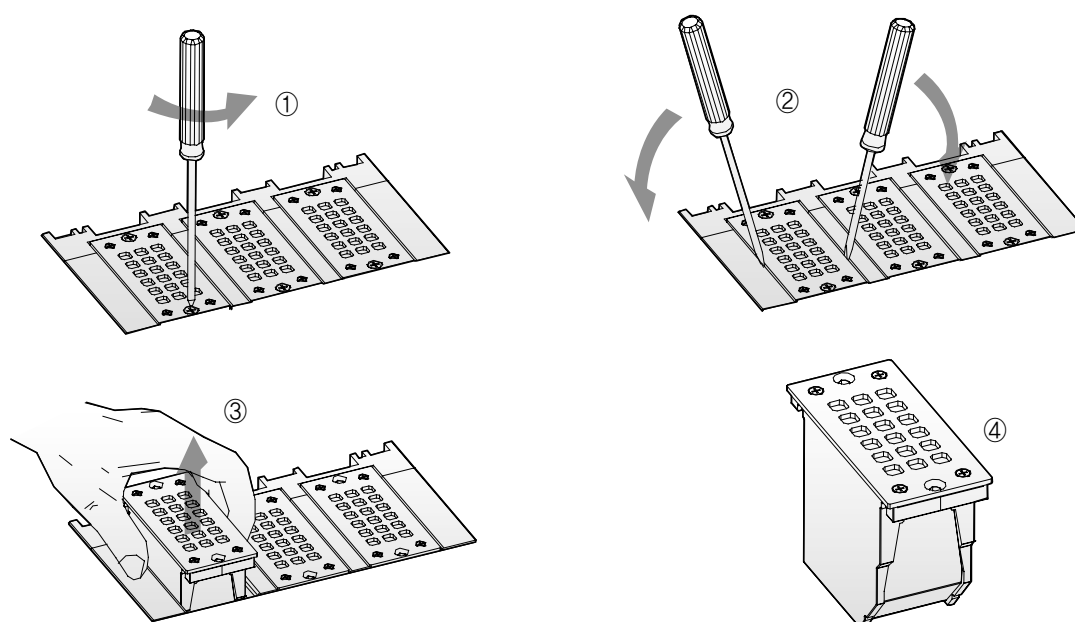

Fig. 7. Separate procedure of Arc chamber
- 2) Separate the arc chamber by lifting it up using two screw drivers as shown in fig. 7 below.